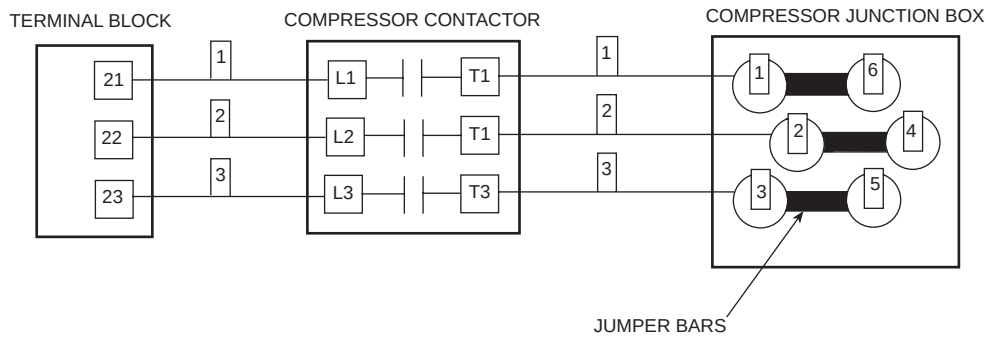

Fig. 2 — Across-the Line (XL) Compressor Wiring
Wye-Delta vs Across-the-Line (XL) Starting Option — All 30GX,HX chillers operating at voltages of 208/230-3-60 or 230-3-50 (5 or 8 at Position 12 in model number) are supplied with factory installed Wye-Delta starters. All other voltage options can be ordered with either Wye-Delta or XL starting options. The XL starting method is the most cost effective and simply starts the compressor motor in a Delta configuration (the motors are designed for continuous operation in this configuration) using a single contactor. See Fig. 2. This is the simplest starting method to use and is ideal where starting current does not require limiting.